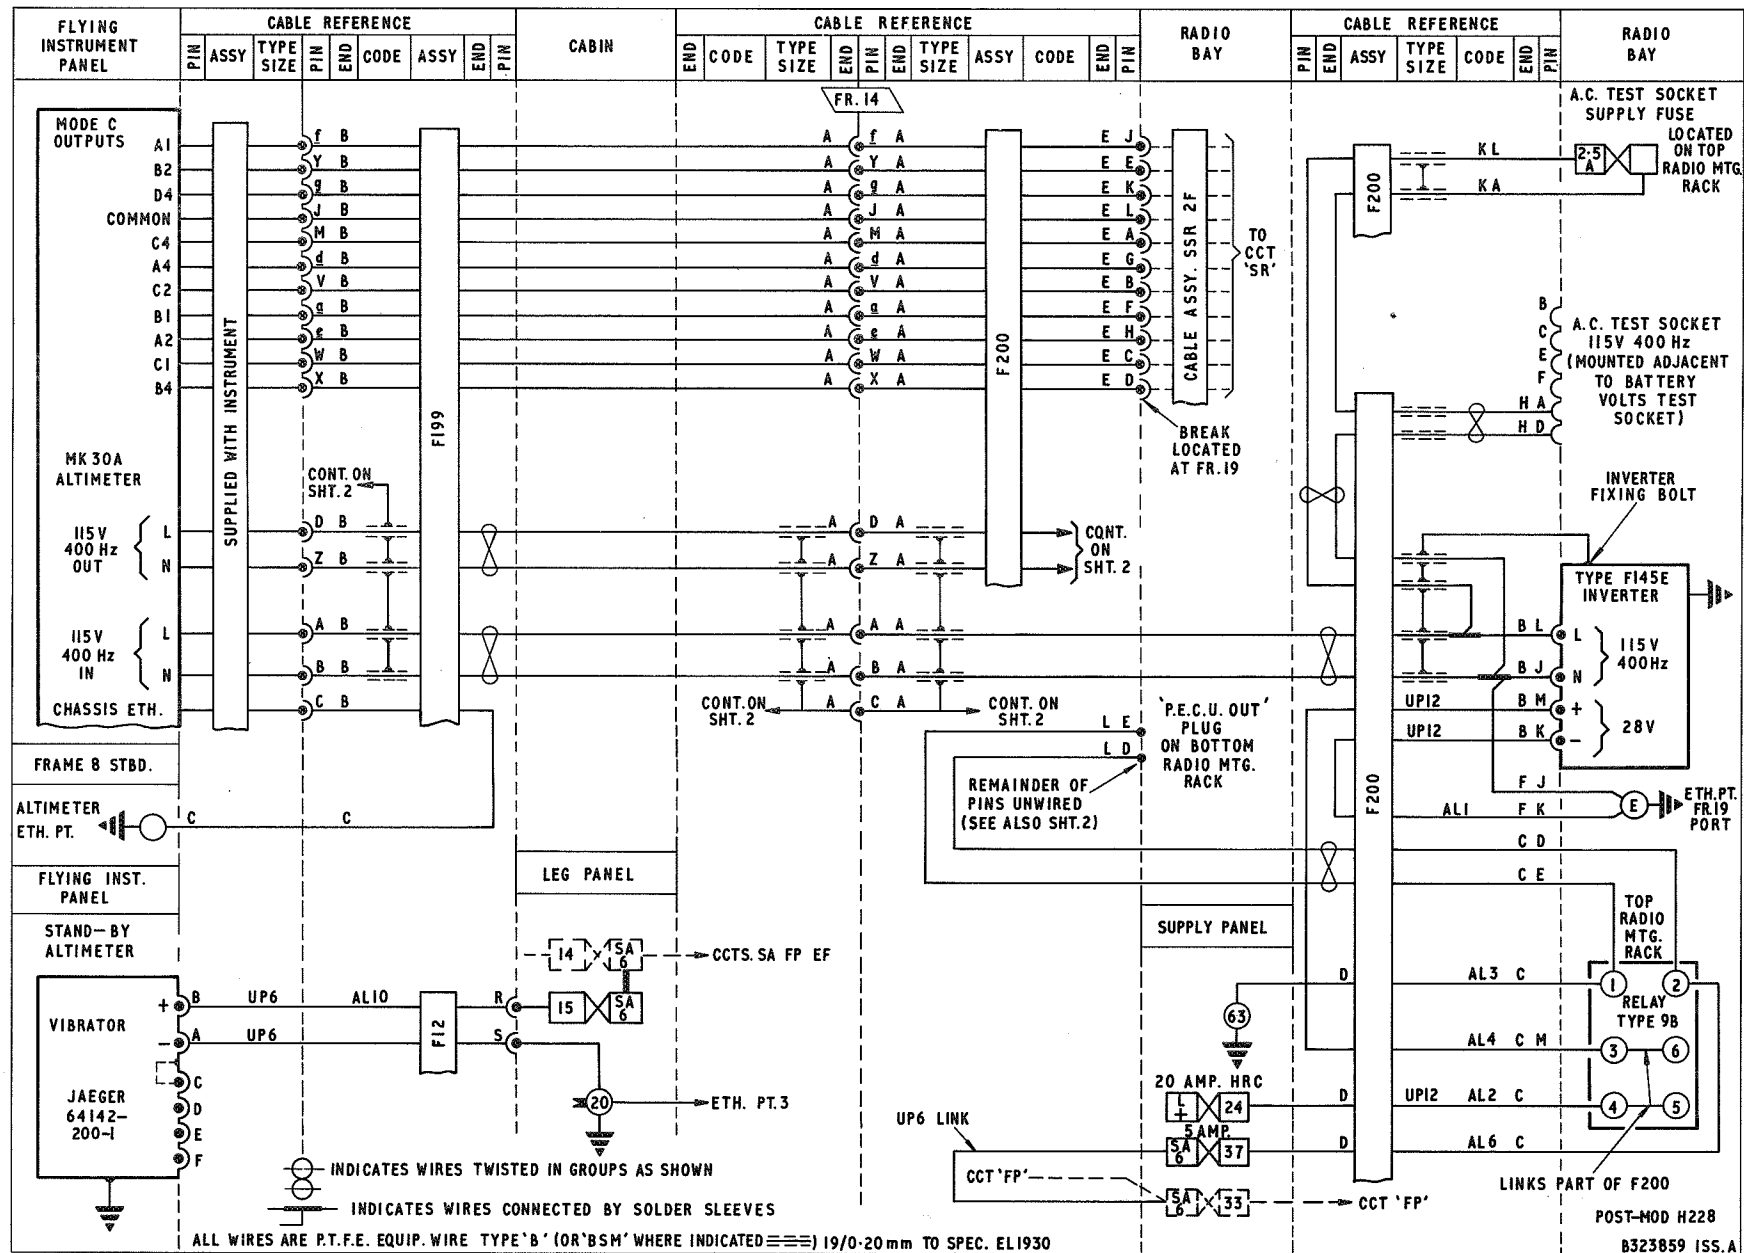

Fig.2 Height encoding and standby altimeter (routing — Mod.1383, sheet 1)
assembly F200 end G (*ref. Figs.2 and 3*) is removed from PL3 on the PECU and connected to the PECU OUT plug and a protective cover is fitted to PL3.
7. The Jaeger altimeter is mounted on the pilots flying instrument panel and operates as an uncorrected air pressure operated instrument. The pressure sensitive capsule of the instrument is connected to the static line of the aircraft pitot/static installation (*Group 3.A.*). The altimeter has a millibar scale and a setting knob projecting from the face and is provided with an integral vibrator which operates on 28V. d.c. from a circuit provided when the engine master switch (*Group C.1.*) is set to ON. This circuit is protected by fuse 15 in the leg panel (*ref. Fig.2*).
inverter will commence to operate and supply 115V, 400Hz a.c. to the Mk.30A, which, in turn, provides supply to the PECU. The striped failure flag will immediately disappear and the altimeter will read a height related to the millibar setting. The PE flag will disappear after approximately one minute. When the system is operated with the PECU inoperative (*F200 G connected to PECU OUT plug*), only pins D and E of F200 G are in circuit to the altimeter Mk.30A (*ref. Figs.2 and 3*). Pin D obtains 28V +ve from terminal 2 of the inverter control relay to energize the coil of an internal relay in the Mk.30A to ensure the encoded output of the altimeter is in circuit to the IFF/SSR transponder. Pin E and control relay terminal 1 complete the earth return for this circuit. The PE failure flag remains in view at all times when the PECU is inoperative.